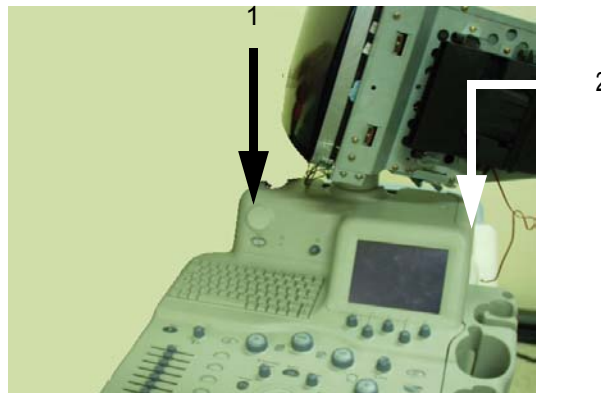

Figure 8-48 Unscrew two screws on the shoulder
- 2.) Unscrew two screws (1-2) from the upper side of the keyboard. Refer to Figure 8-48 on page 8-13 .